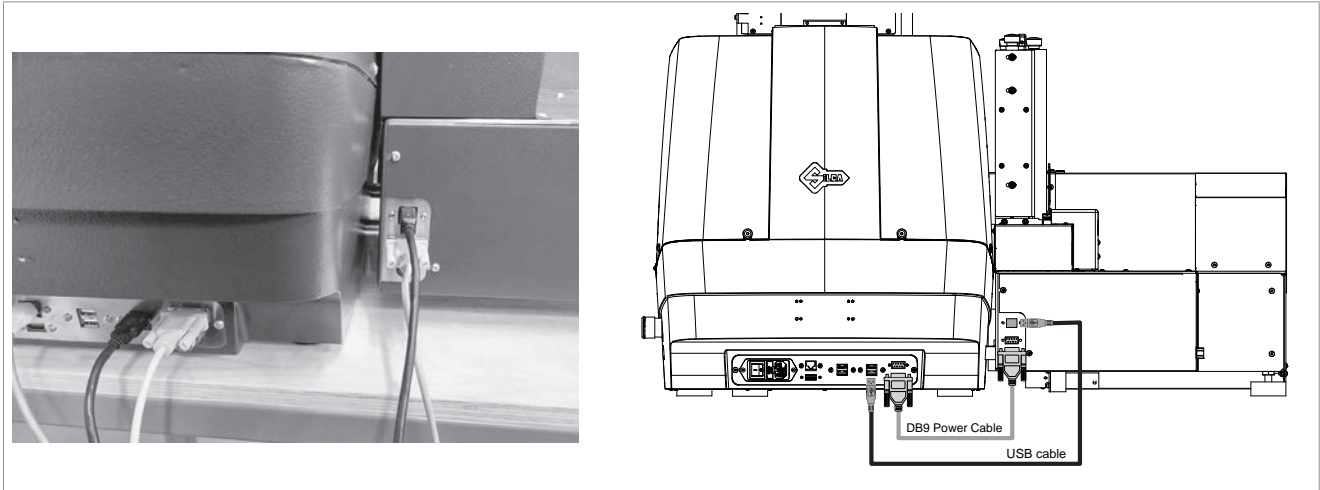

Fig. 132
- 1) Turn off the machine with the master switch (B) on the back.
- 2) Check connection of the cables between the machine and feeder (Fig. 132).